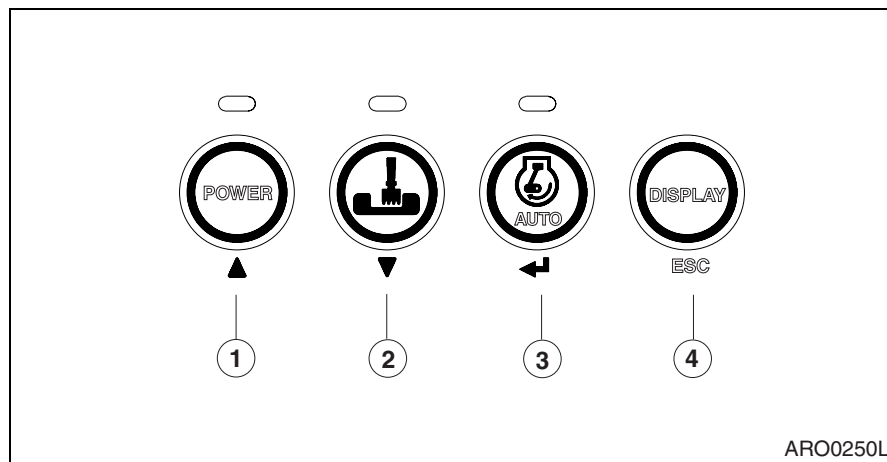

Figure 18
1. If escape button (ESC, 4 on Figure 18) is pressed for more than 1 second, the special menu screen will be returned to the normal mode screen.
Various submenus can be selected by pressing "Up (▲, 1 on Figure 18)" and "Down (▼, 2 on Figure 18)" button.
When the selected menu is inverse displayed, press the "Enter (↵, 3 on Figure 18)" button for menu selection.
1. Entering Submenus: When cursor is on "Machine Info" of special menu screen, press "Enter (↵, 3 on Figure 18)" button and the "Machine Info Submenu" will be displayed.
2. Exiting Submenus: If escape button (ESC, 4 on Figure 18) is pressed for more than 1 second, display will be turned to previous submenu.
1. Entering Submenus: When a cursor is in "Failure Info" of special menu screen press enter button (↵, 3 on Figure 18) and "Failure Info" screen is displayed.
2. Exiting Submenus: If escape button (ESC, 4 on Figure 18) is pressed for more than 1 second, this information screen will be returned to previous screen.